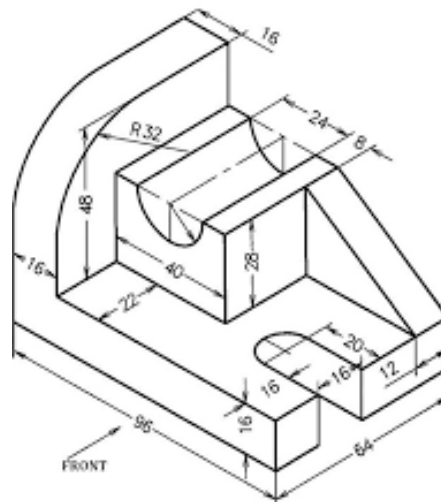

Fig. 10.3
1. Generate 2D drawings from 3D model shown in Fig 10.3 **60 Minutes/ 10 Marks/ Level 1/-**